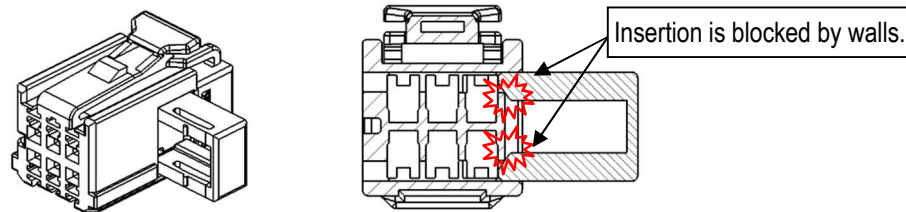

Fig35. Incorrect retainer installation
- ⑤ The retainer cannot be inserted, when it is inserted in incorrect orientation to the female housing, as shown in Fig.35.